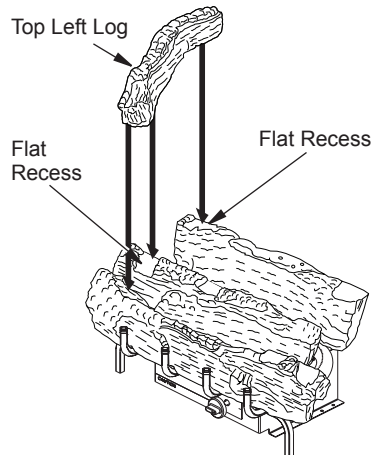

Figure 19 - Installing Top Left Log
4. Place left top log as shown in Figure 19. This log will fit on the matching flat recess on the middle and rear logs.